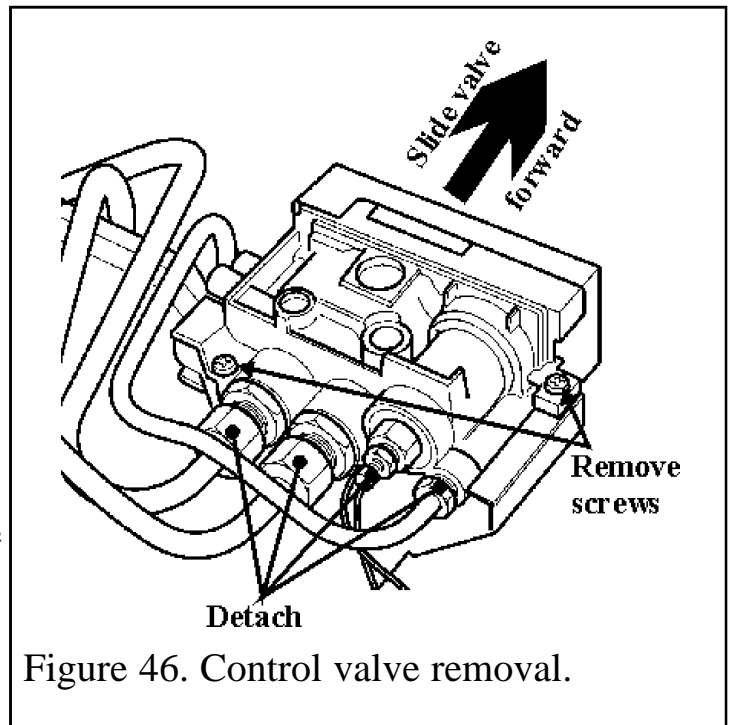

Figure 46. Control valve removal.
- Remove the two mounting screws on the underside of the gas valve (See figure 46).